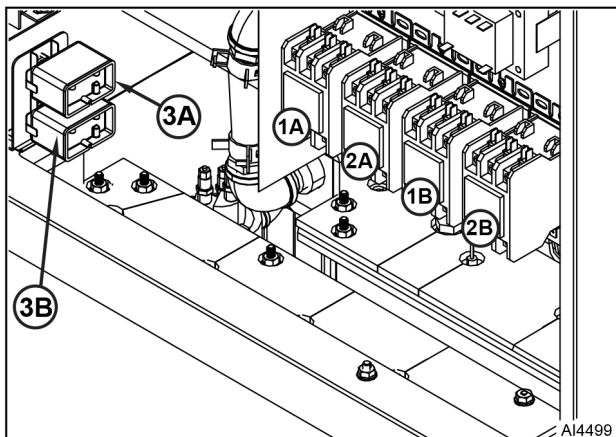

Fig. 28
6. Disconnect heating element leads from limiting (1A or 1B, Fig. 28) and regulating contactors (2A or 2B).